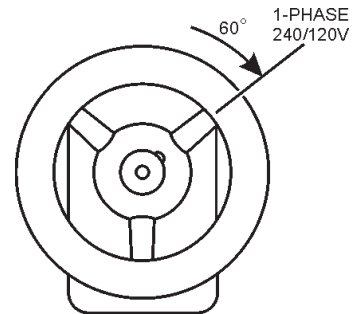

Figure 25. Voltage Selector Switch Wheel 1-Phase 240-120 Position
1. Place the voltage selector switch wheel in the 1Ø 240/120V position as shown in Figure 25.